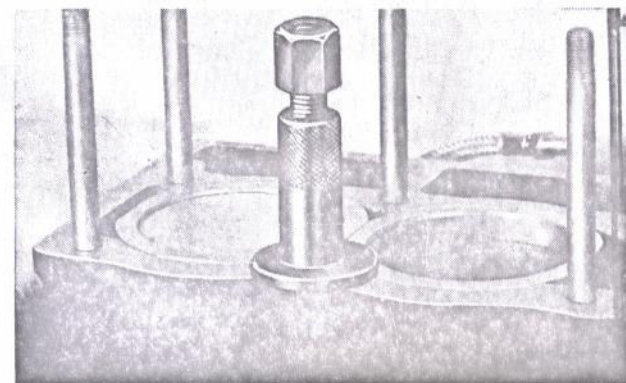

fig. 14
1. The procedure of turning the crankshaft in order that the compression will " break " the seal of the cylinder head should not be practised with this design of engine. Once the cylinder head has been removed it is important that the crankshaft is not rotated unless the cylinder sleeves are firmly clamped down against their seatings. This can be accomplished by using two tubes and washers fitted over the cylinder head studs and each secured with a cylinder head nut Fig. 14. If this precaution is not observed the sleeves may rise with consequent risk of water leaking into the crankcase after assembly. On removal of the head and withdrawal of the push rods, the passage ways in the block leading to the camshaft and thence to the crankcase and sump must be sealed off with a clean rag or masking tape. The same applies to the rocker shaft oilway, both in the head and the block to prevent the entry of carbon particles which could do serious harm to the engine.